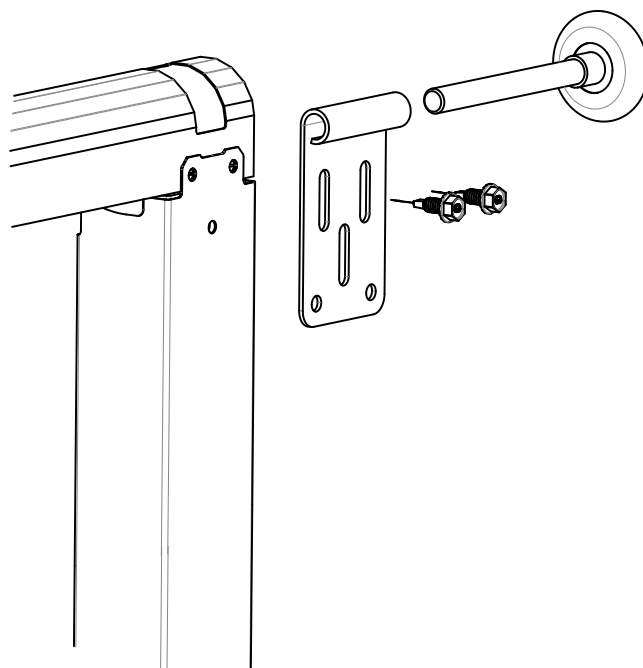

Fig: 2.2.6
i) Attach the top hangers to the top corners of the panel, using the vertical slots only. Fig 2.2.6.